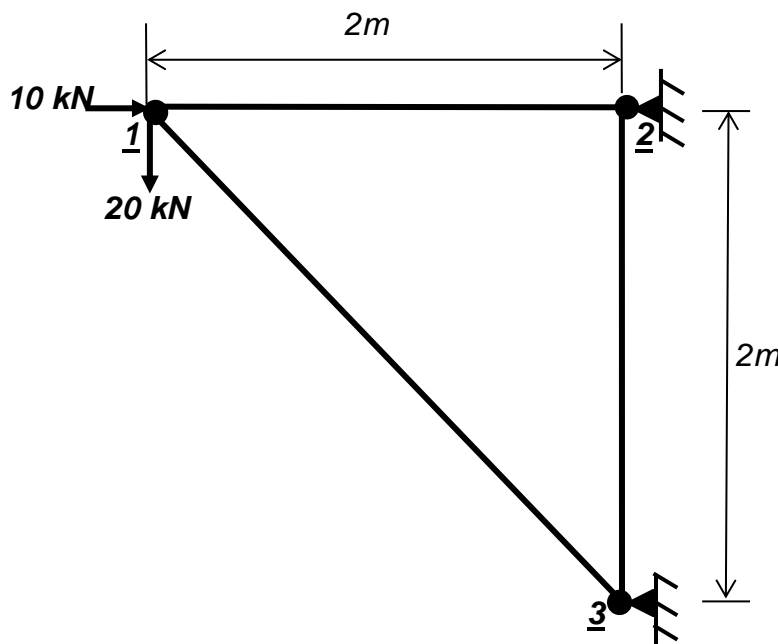

Figure Q.1
Q.1. Determine the nodal displacements and member internal forces for the basic truss system loaded as shown in Figure Q.1. For each member, $A = 1000\text{mm}^2$ and $E = 200\text{ kN/mm}^2$